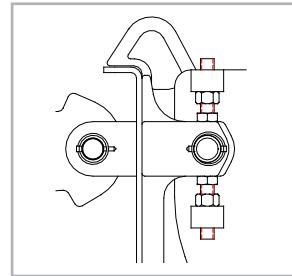

figure 2.
3. Make sure that the tractor parking brake is on; start the tractor and sweeper. Lower the brush head so the brush is 2 inches (51mm) above the ground. Adjust sweeper to be level left and right. To check swing level use a bubble level and refer to figure 2.